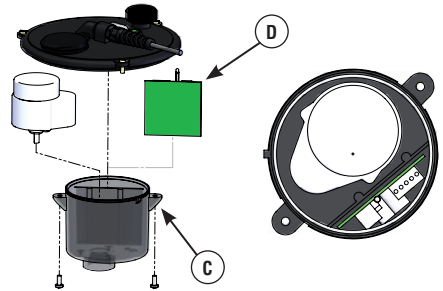

FIG 5
1. Remove screws x 3 (A)
2. Remove Lid (B)
3. Remove screws x 2 (C) under lid (see fig 5)
4. Access PCB (D)